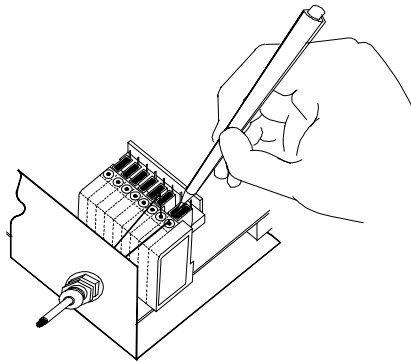

Figure 2.9 - System cable connections to the junction box
- Using a device such as a screwdriver, push down on the orange lever directly above the clamp (see Figure 2.9).